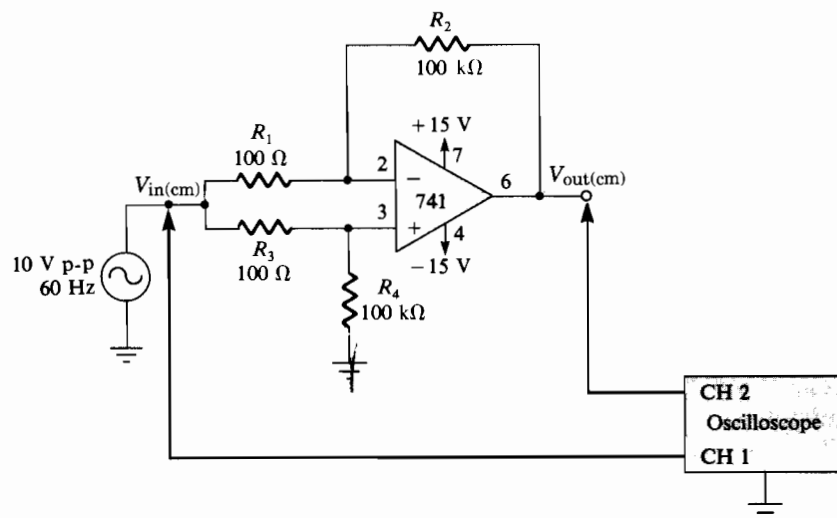

FIGURE 31-1 Schematic diagram of circuit.
1. Wire the circuit shown in the schematic diagram of Figure 31-1, and set your oscilloscope for the following approximate settings:
5. In some instances, the CMR may be improved by trimming one or more resistors of the circuit of Figure 31-1. Disconnect the signal generator and dc power to the circuit. Replace R_4 with a series connection of a 100-k Ω potentiometer and a 10-k Ω resistor.
5. For the circuit of Figure 31-1, if the common-mode rejection ratio is 100,000 : 1 and the input voltage is 10 V peak-to-peak, the peak-to-peak output voltage is